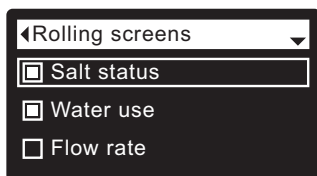

FIG. 52
5. Press the SELECT (O) button to display the Rolling screens menu (See Figure 52).